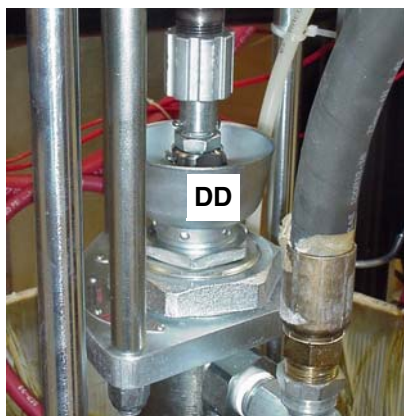

FIG. 8
4. Fill resin pump and catalyst feed pump wet cups (DD) 2/3 full with Graco T.S.L. fluid (throat seal lubricant), FIG. 8.